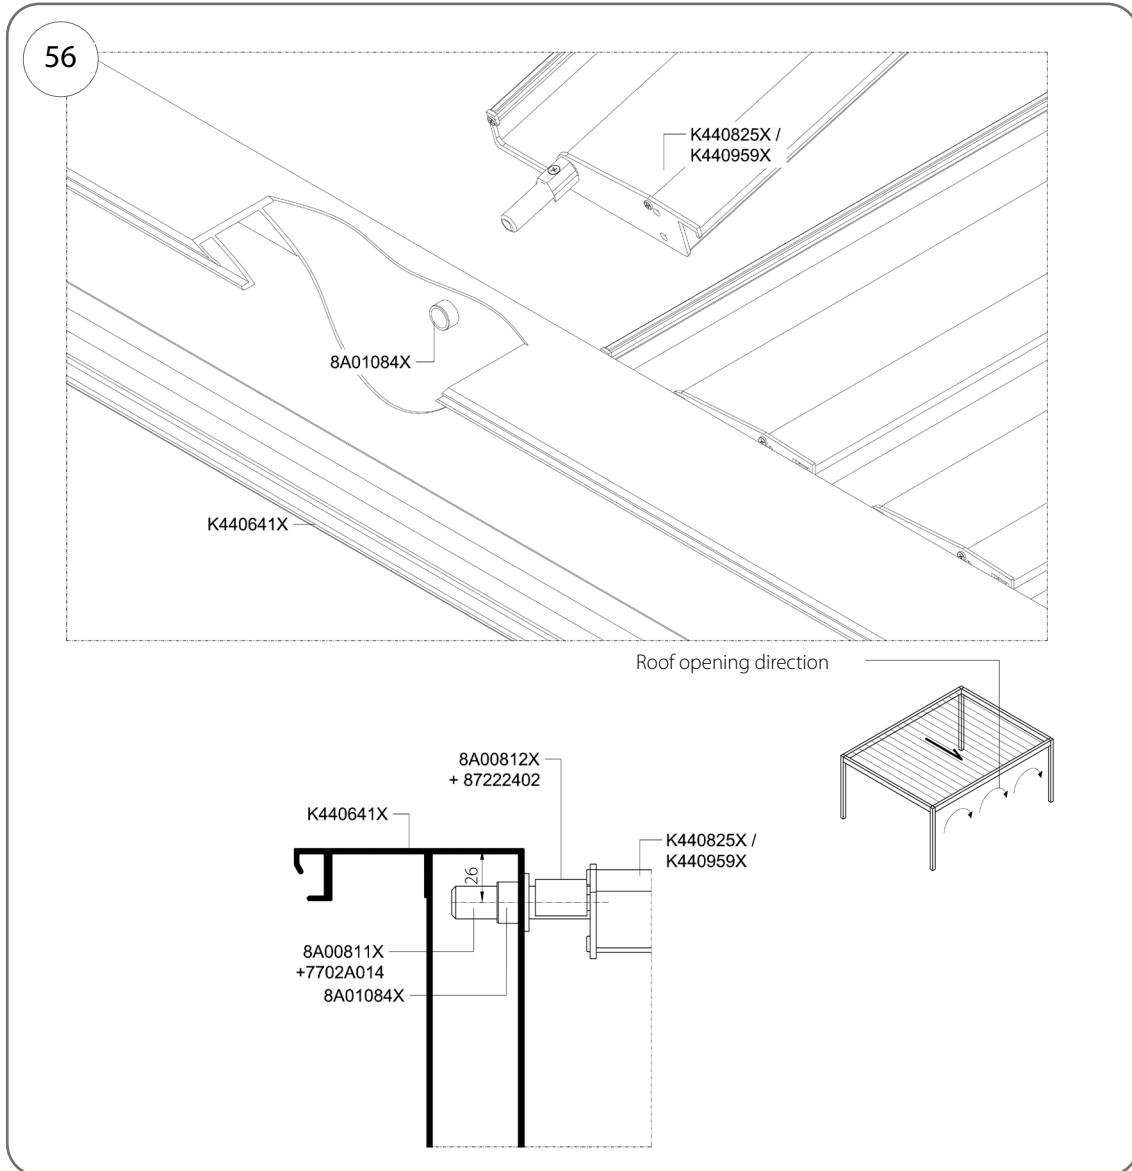

Fig. 56
1. Insert the louver axle at an angle into the sleeve 8A01084X (Fig. 56).